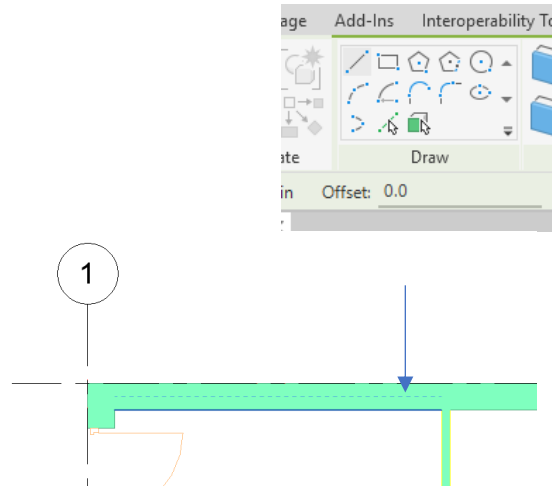
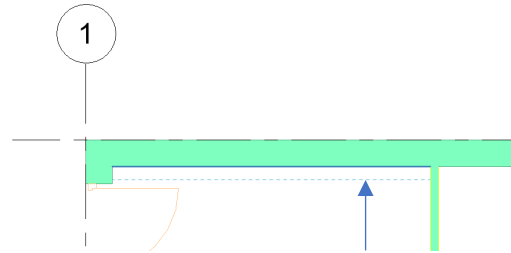

Figure 5a. Reference line in the correct position.
Figure 5b. Reference line shown in the wrong position.
Revit displays a dotted reference line in the center of the line (indicated by the arrow on the right in Figure 5a), which is where the wall will be created. Figure 5b shows the dotted line in the incorrect position.
6. When the reference line is in the position as shown in figure 5a, click the left mouse button to create the wall.